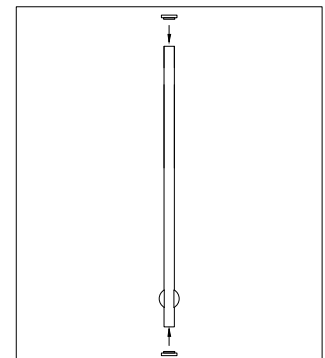

Figure 4
5. Replace end caps onto bar. (Fig. 4)